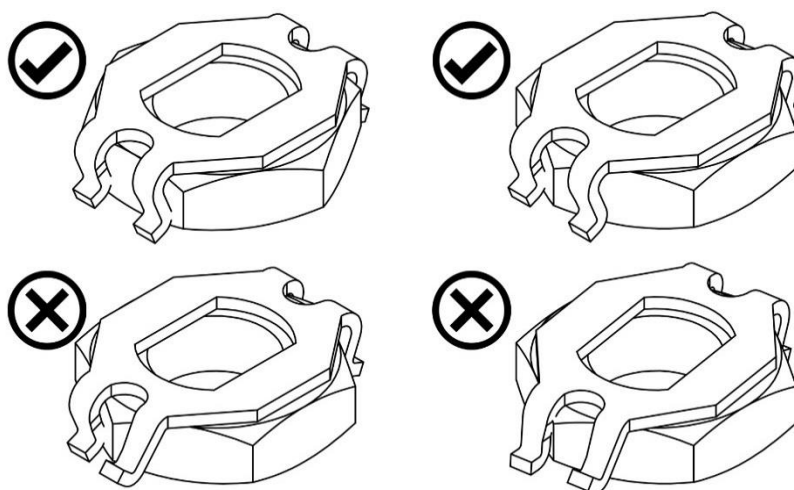

Figure 5 Fitting the locking clip
- f) Fit the locking clip correctly as shown in Figure 5.